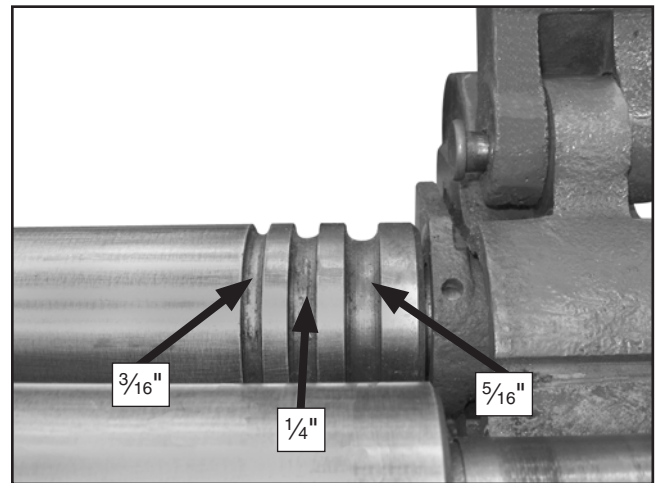

Figure 27. Wire grooves.
- Place your workpiece into the smallest possible groove on the wheel. The three sizes are $\frac{3}{16}$ ", $\frac{1}{4}$ ", and $\frac{5}{16}$ " (**Figure 27**).